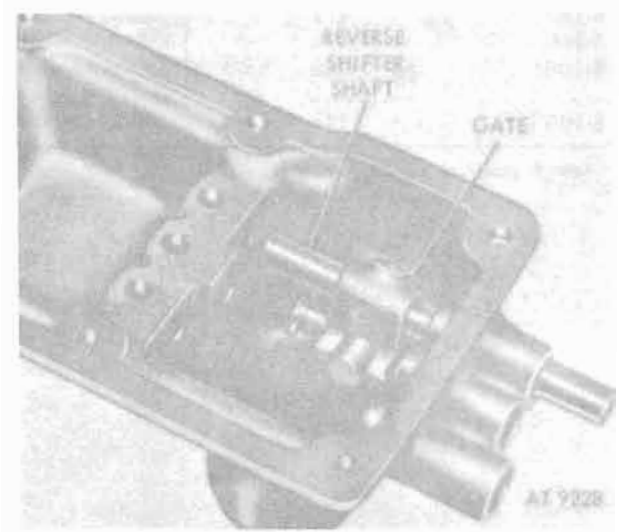

Figure 8-95. Reverse shifter shaft and shifter gate.
i. Remove reverse-shifter shaft and shifter gate from housing (fig. 8-95).
- d. Install reverse-shifter gate assembly on reverse-shifter shaft. Refer to figure 8-95.